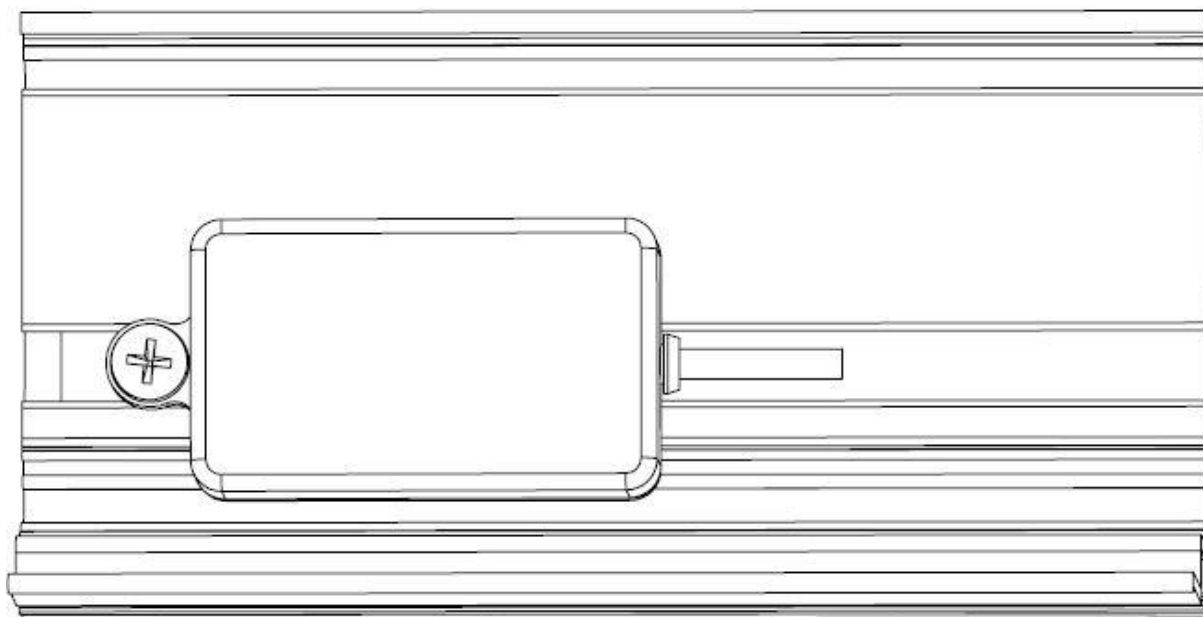

Fig. 5
3. Secure the awning by moving the slide locks along the bottom awning track until they are located under their respective brackets (Figure 5). The final position of the slide lock should be directly under the shoulder of the arm.
(Figure 5)